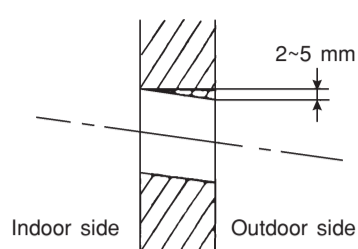

Fig. 7-2
- Hole on wall should be made with some inclination like Fig. 7-2 for keeping the smooth flowing of the condensed water.